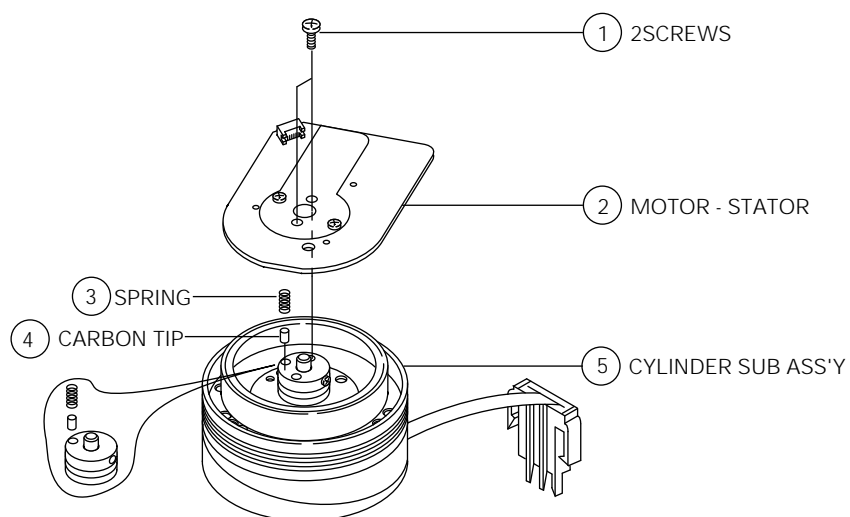

Fig. 1-17 Motor Stator Removal
1. Reinstall the Motor Stator ① toward the FPC cable of Cylinder Sub Ass'y ②.
2. Secure 2 Screws. (Refer to Fig. 1-17)